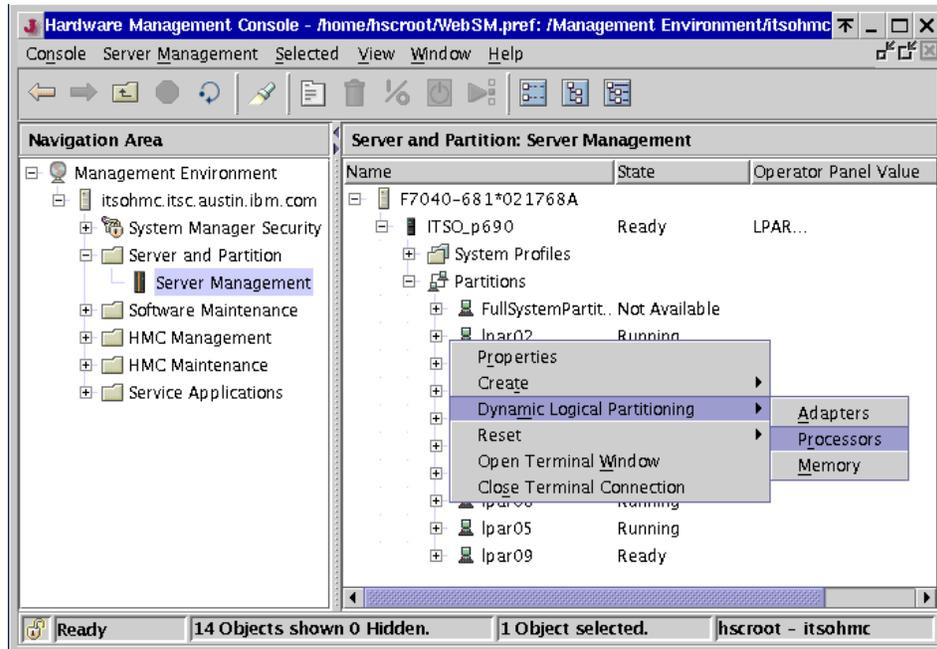

Figure 8-1 Dynamic logical partitioning
- From the menu bar, select **Selected** → **Dynamic Logical Partitioning** → **Processors**, as shown Figure 8-1.
7. From the menu bar, select **Selected** → **Dynamic Logical Partitioning** → **Memory** (see Figure 8-1 on page 257).
7. From the menu bar, select **Selected** → **Dynamic Logical Partitioning** → **Adapters**, as shown in Figure 8-1 on page 257.
- From the menu bar, select **Selected** → **Dynamic Logical Partitioning** → **Processors**, as shown in Figure 8-1 on page 257.
7. From the menu bar, select **Selected** → **Dynamic Logical Partitioning** → **Memory**, as shown in Figure 8-1 on page 257.